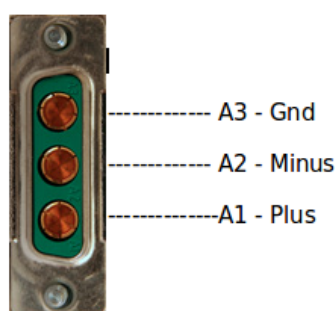

Figure 4.4: Soldering the Female 3-PIN D-sub(15) Connector to the Power Cable
The ECDC unit is equipped with two –48V DC / 50W power inlet connectors. The power plug is a male 3-PIN D-sub(15) connector. Matching female plugs are supplied with the ECDC unit. This plug should be soldered to the power cable in accordance with the drawing in figure 4.4.